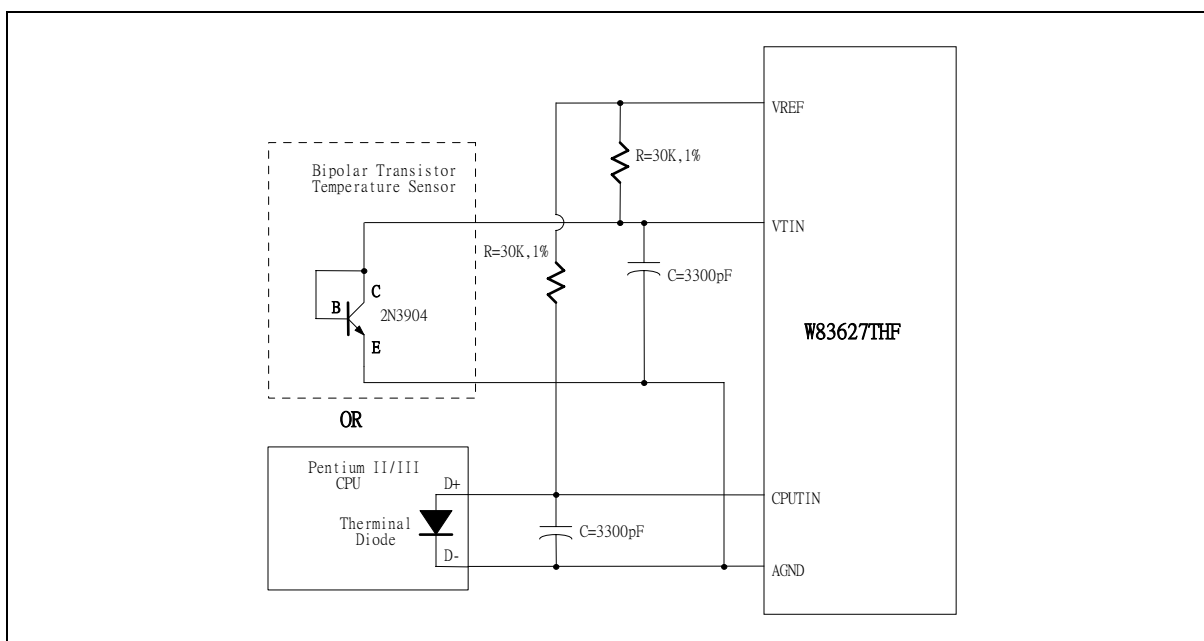

Figure 5-3
The W83627THF can alternate the thermistor to Pentium II™/Pentium III™ thermal diode interface or transistor 2N3904 and the circuit connection is shown as Figure 5-3. The pin of Pentium II™/Pentium III™ D- is connected to AGND and the pin D+ is connected to temperature sensor pin in the W83627THF. The resistor R=30K ohms should be connected to VREF to supply the diode bias current and the bypass capacitor C=3300pF should be added to filter the high frequency noise. The transistor 2N3904 should be connected to a form with a diode, that is, the Base (B) and Collector (C) in the 2N3904 should be tied together to act as a thermal diode.